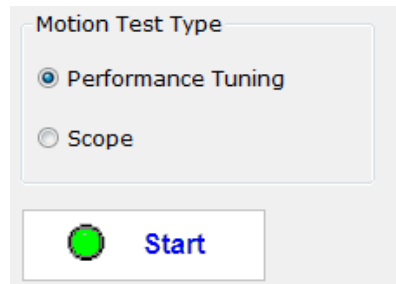

Figure 14: Motion test type selection
- The bottom right “Motion Testing” area of motion test window (Figure 14) is used to choose what motion test type to perform. Select “Performance Tuning” to tune the CS-D drive; choose “Scope” for motion performance monitoring when the CS-D drive takes control commands from a connected controller.
- Keep the default selection of “Performance Tuning” option (Figure 14).